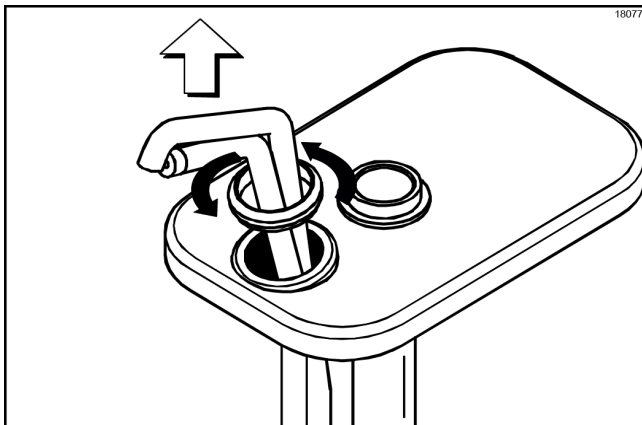

Figure-78
9. Remove the discharge tube locknut by turning it counterclockwise and sliding it off the discharge tube. (See Figure-78.)